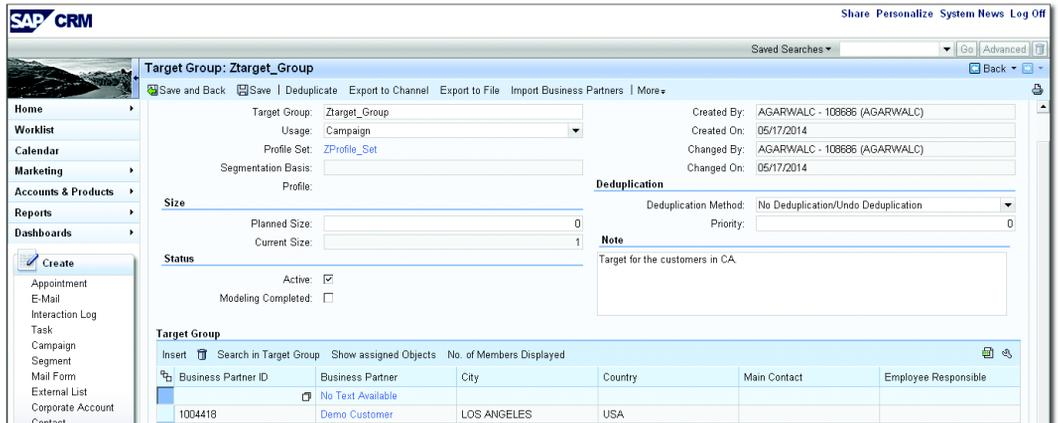

Figure 5.20 Target Group
5. Figure 5.20 shows that the target group is created where the business partner is assigned, and the campaign is executed for the assigned business partner.